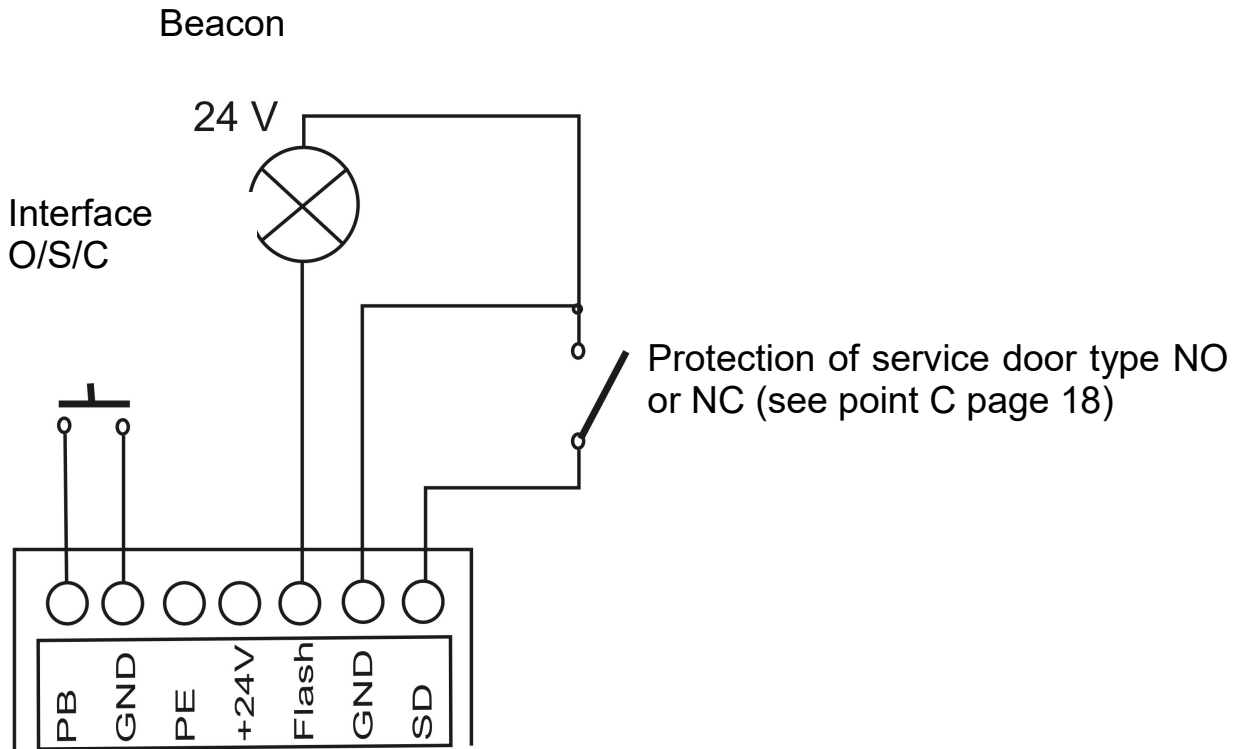

Fig.15
1. Possibility to connect the O / S / C interface (Fig. 15)
2. Beacon function (Fig. 15)
3. Service door protection (Fig. 15)